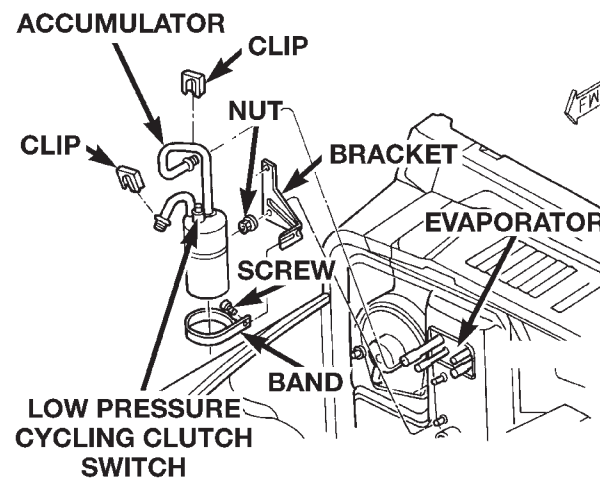

Fig. 32 Accumulator Remove/Install
(1) Disconnect and isolate the battery negative cable.
(2) Recover the refrigerant from the refrigerant system. See Refrigerant Recovery in this group for the procedures.
(3) Unplug the wire harness connector from the low pressure cycling clutch switch.
(4) Remove the plastic clip that secures the liquid line to the accumulator outlet tube near the dash panel.
(5) Loosen the screw that secures the accumulator retaining band to the support bracket on the dash panel (Fig. 32).